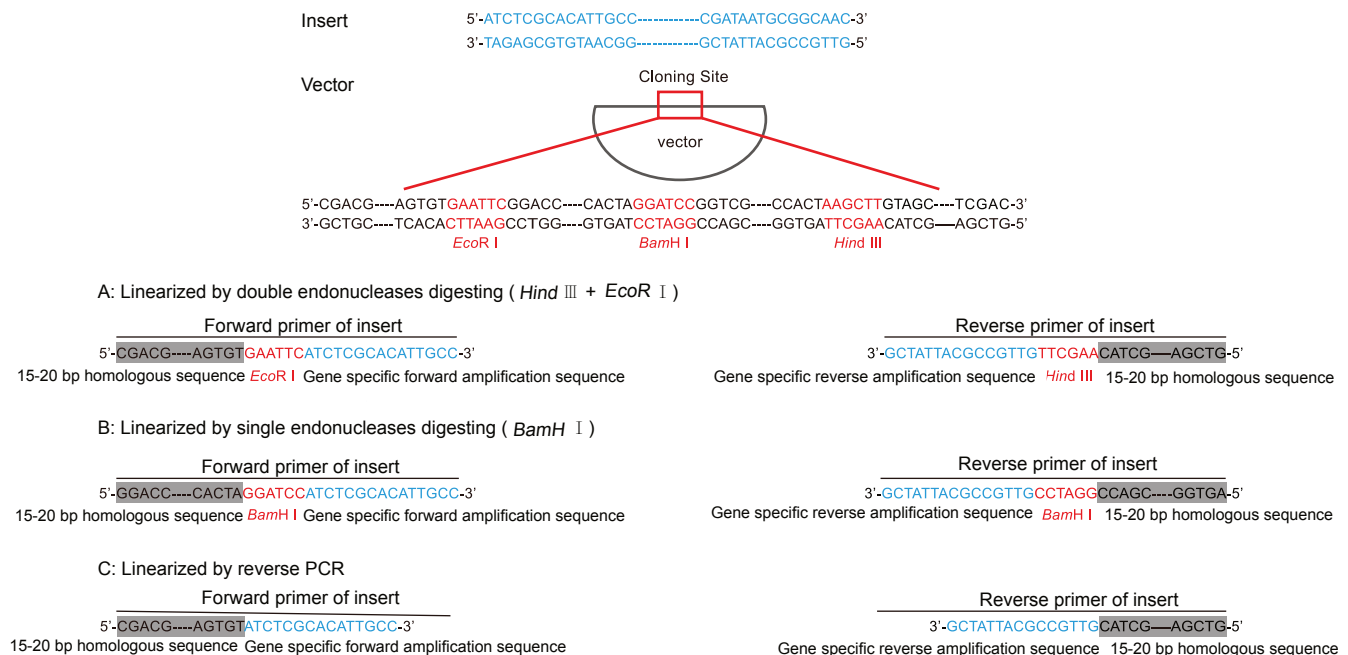

Fig4. Primer Design for Single-fragment Homologous Recombination
It is recommended to use Vazyme's software, CE Design (available on <http://www.vazyme.com>), to design primers. The CE Design automatically generates amplification primers of insert. You can also design the primers manually. An example is shown in Fig 4.
- ▲ Primer design of fragments of A and C (Refer to Fig4. Primer design for single-fragment homologous recombination).